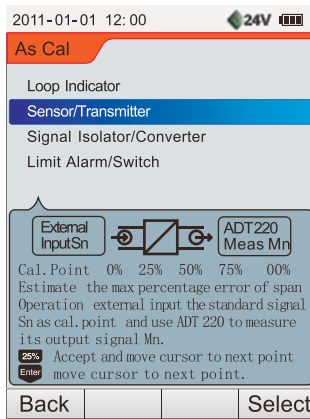

Figure 9.31
3. Press **AsCal** key to enter As Cal tool list, as shown in Figure 9.31.